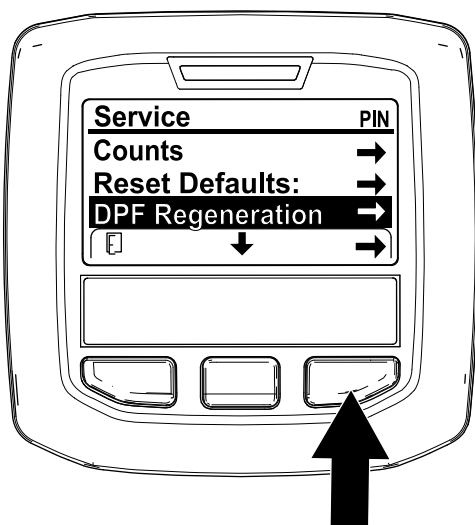

Figure 33
- Access the Service menu, press the center button to scroll down to the DPF REGENERATION option (Figure 33).
- Press the right button to select the DPF Regeneration entry (Figure 33).